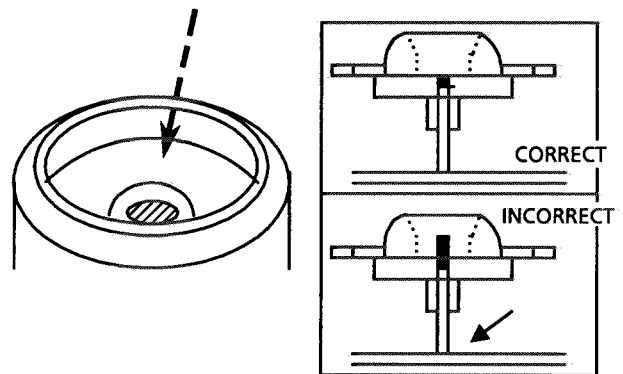

Fig 20
- (20)** After inserting the turntable, bond the motor shaft and turntable together (at the section marked by an arrow in fig 20 on the left below).
- (21)** Use "LOCKTITE" #460 bonding agent, and apply as little as possible. Take care not to allow any excess bonding agent to get onto the turntable. Be extremely careful not to allow bonding agent to adhere to the motor bearing (the section marked by an allow in fig 20 on the right).